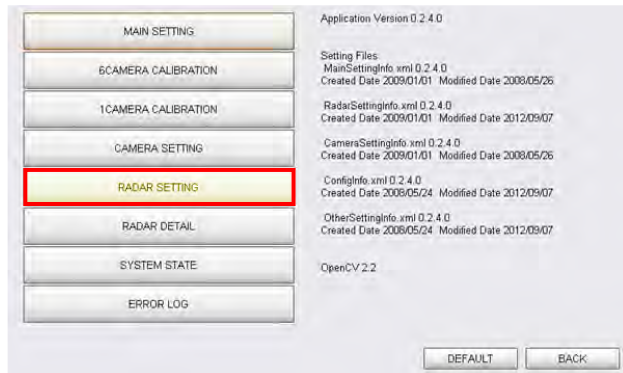

FIGURE 30-42. RADAR SETTING SCREEN
6. Take note of the OBJECT NO column, then select the BACK button. In the maintenance screen, select RADAR SETTING. See Figure 30-42.